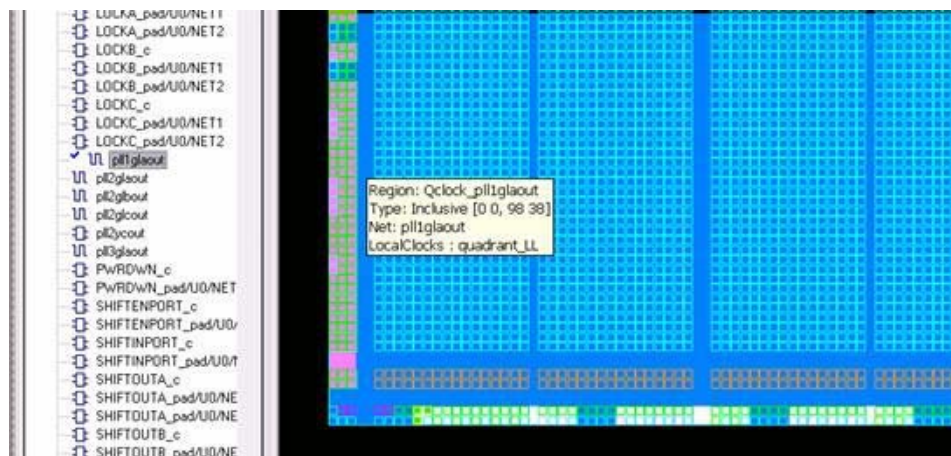

Figure 4-33 • Quadrant Clock Assignment for a Global Net
- Use quadrant global region assignments by finding the clock net associated with the CCC macro under the Nets tab and creating a quadrant global region for the net, as shown in Figure 4-33.